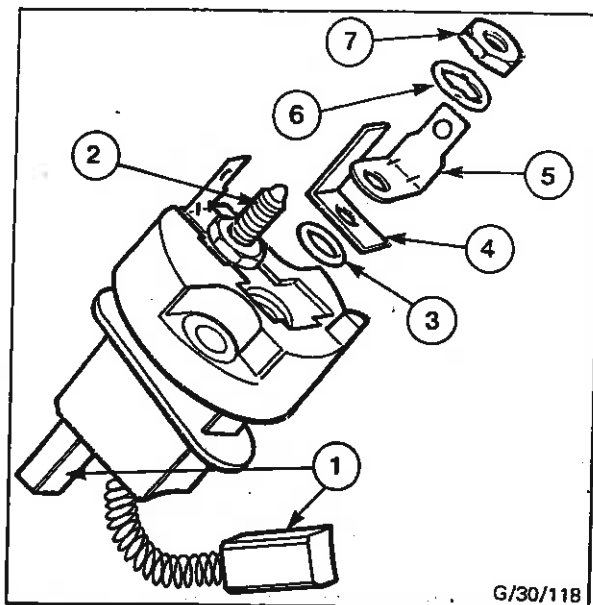

Fig. 79 - Assembling Brushes
9. Refit brushes (1) to brush box, making sure that the terminal posts (2) are fully seated. Thread new 'O' sealing rings (3) over both the terminal posts and assemble insulator (4) to one of the terminals. Fit Lucar blades (5) and crinkle washers (6) to both terminals and secure with terminal nuts (7) - see Fig. 79.